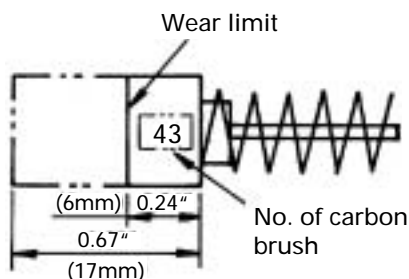

Fig. 6
## 4. Inspecting the carbon brushes (Fig. 6)
**NOTE:** Use HITACHI carbon brush No. 43 indicated in Fig. 6.